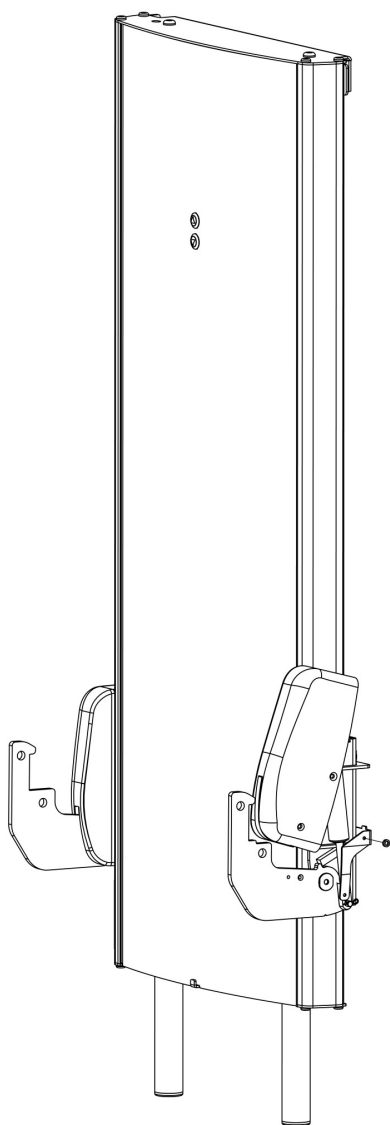

Fig 12.11a
- Locate the gas spring covers and rotate into position, as shown in Fig 12.11a-12.11b.